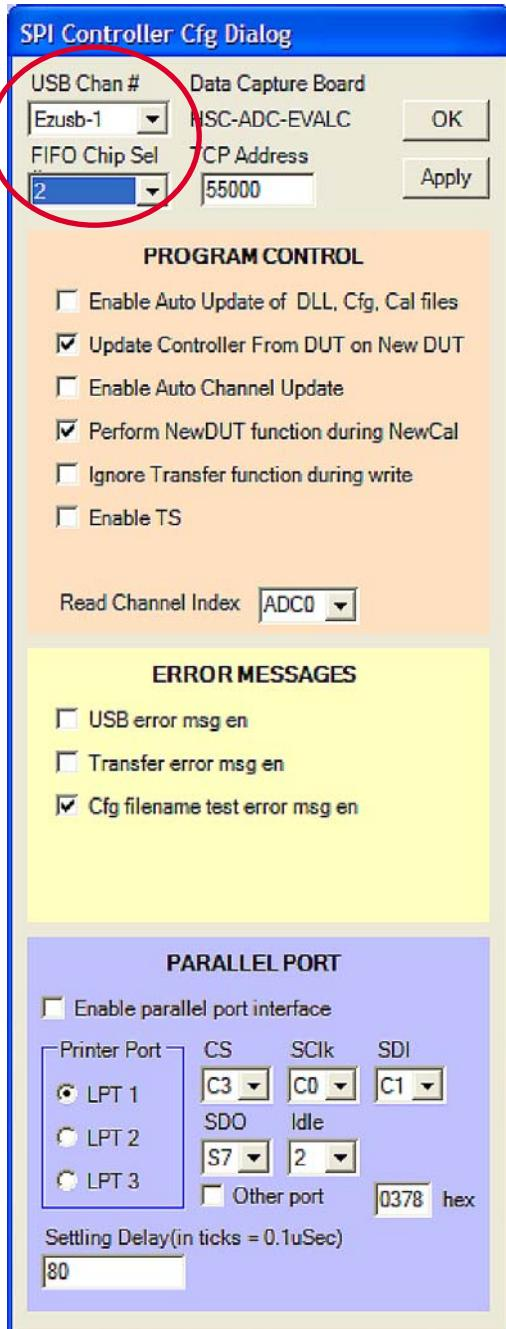

Figure 10.
3. Select **Config** and then **Controller Dialog** and make sure that **FIFO Chip Sel** is set to **2** and that **USB Chan #** is set to the same value as the AD9262 SPIController **Cfg** dialog (see Figure 10).